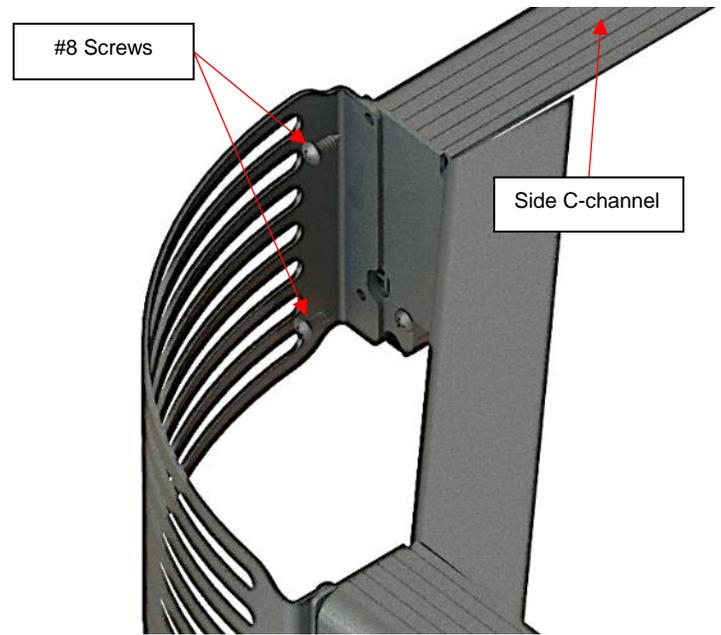

Figure 78
37) Fasten the Robertson sheet metal #8 x 3/4" screws that hold the side C-channel (Figure 78).